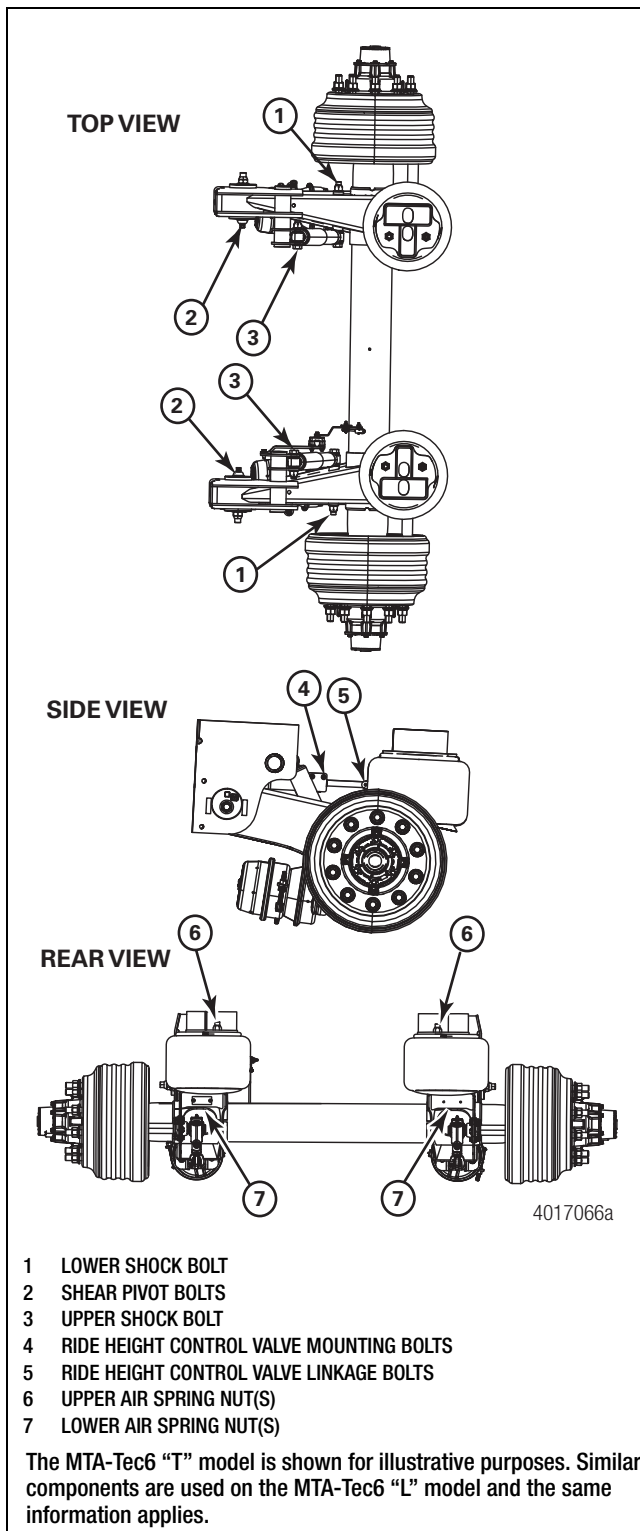

Figure 4.1
- B. Visually inspect all nuts and bolts for looseness and movement. Figure 4.1. Tighten loose fasteners to the correct torque values specified in Section 7. Thereafter, inspect the suspension components each time the trailer is serviced.